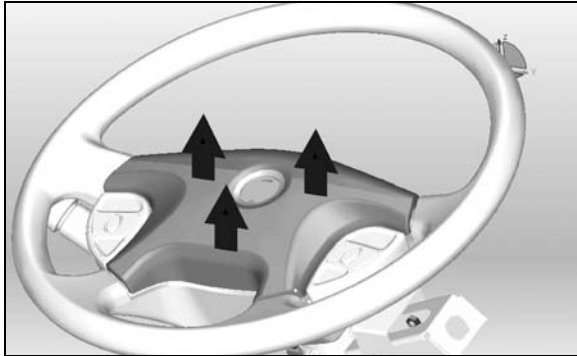

FIGURE 10: REMOVING THE HORN PAD
2. Pull the horn pad straight up gently to detach it from the steering wheel (Fig. 10).